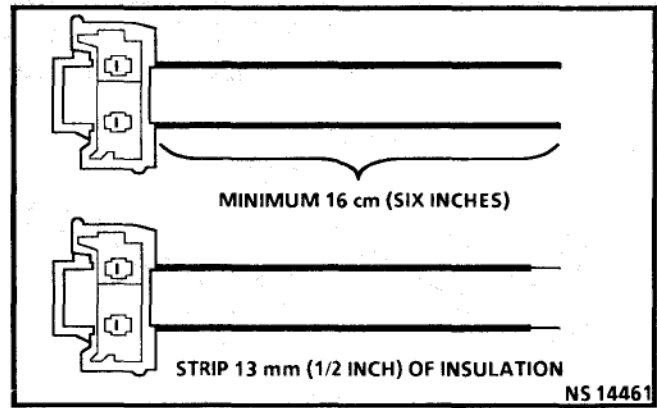

Figure 24 - Cutting the Harness Connector Wires
4. Cut the driver inflator module yellow 2-way harness connector from the vehicle leaving at least 16 cm (six inches) of wire at the connector (Figure 24).
5. Strip 13 mm (1/2 inch) of insulation from each wire lead of the connector (Figure 24).